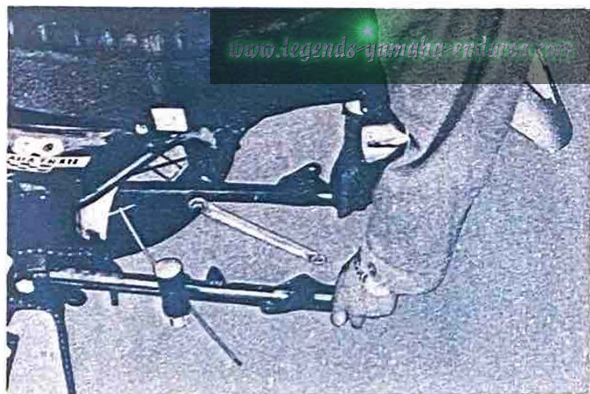

Fig. 5-8-3
- 1) Check the play of the rear swing arm by shaking it as shown in Fig. 5-8-3, with the rear swing arm installed. If the play is excessive, replace the rear swing arm bushing or the rear swing arm shaft.